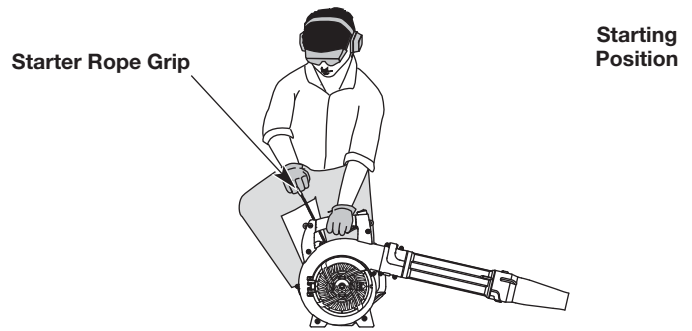

Fig. 7
WARNING: Avoid accidentally starting the unit. To avoid serious injury, the operator and the unit must be in a stable position when pulling the starter rope (Fig. 7).
6. **DO NOT** squeeze the throttle control. Crouch in the starting position (Fig. 7).
7. **DO NOT** squeeze the throttle control. Pull the starter rope with a controlled and steady motion **5 times** (Fig. 7).